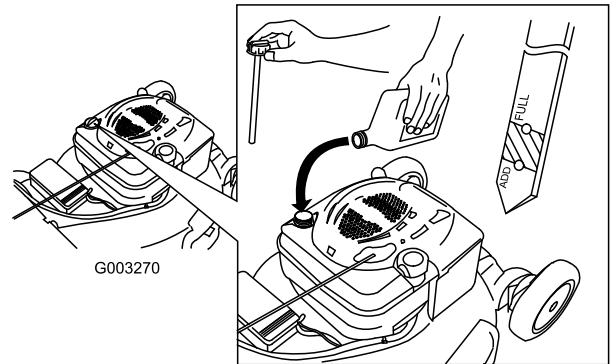

Figure 38
4. **Slowly** pour oil into the oil fill tube until the oil level reaches the Full line on the dipstick (Figure 38). **Do not overfill.** (Max. fill: 20 oz. (0.59 l), type: SAE 30W detergent oil with an API service classification of SF, SG, SH, SJ, SL, or higher.)